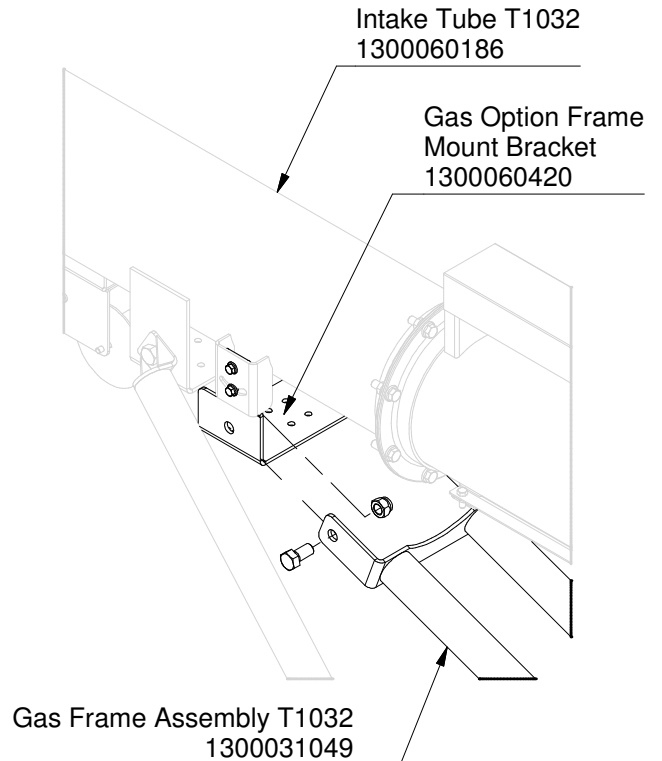

FIGURE 2
2. Return to the Main Assembly Instructions for the HVST T1032 Gas Option Kit 13000PBT10062 and continue assembling the Option Kit Frame as instructed. See Figure 2.